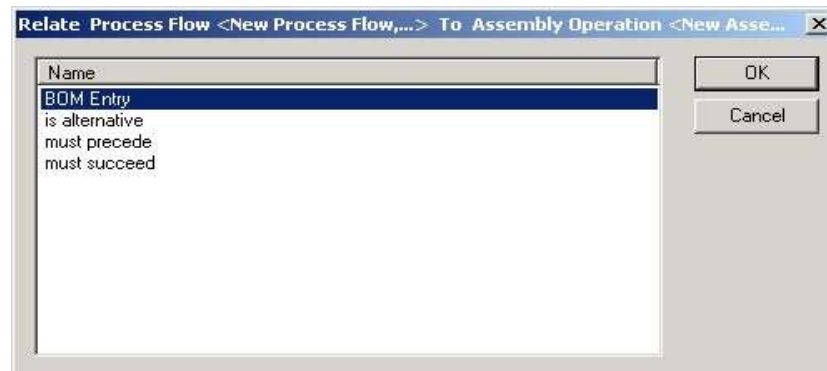

Figure 170: Dialog with Relations
- 8) Click **Advanced** to enter the attribute values per planttype basis. The Figure 170 apperas: